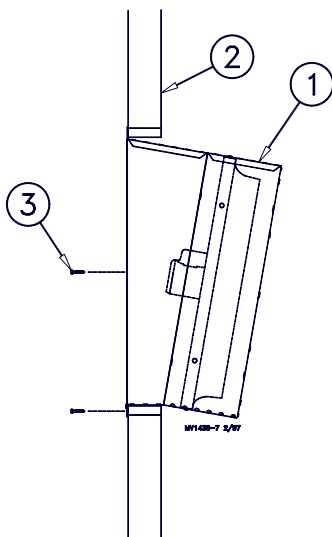

Figure 10. Fan installation (side view)
Secure the Slant Wall Housing to the framed opening, using (1) 1/4" x 1-3/4" Lag Screw through the middle hole on each side and (3) 1/4" x 1-3/4" Lag Screws across the bottom panel. See **Figure 10**. Lag Screws are supplied in the Hardware Package.